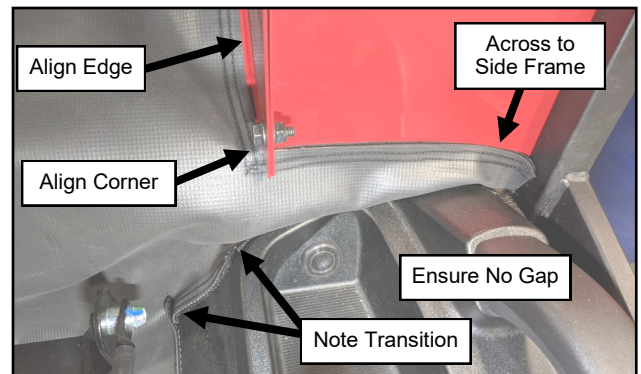

Fig. 21.3 (Secure Rear Left Corner)
- 21.3 Fold and tuck the left rear corner under the rear leg. See Figure 21.3. Align the inner corner and inner edge to the rear leg and apply the Velcro.
Note: Ensure the transition noted on Figure 21.3 prevents water intrusion. Adjustment may be necessary to keep water from running in.